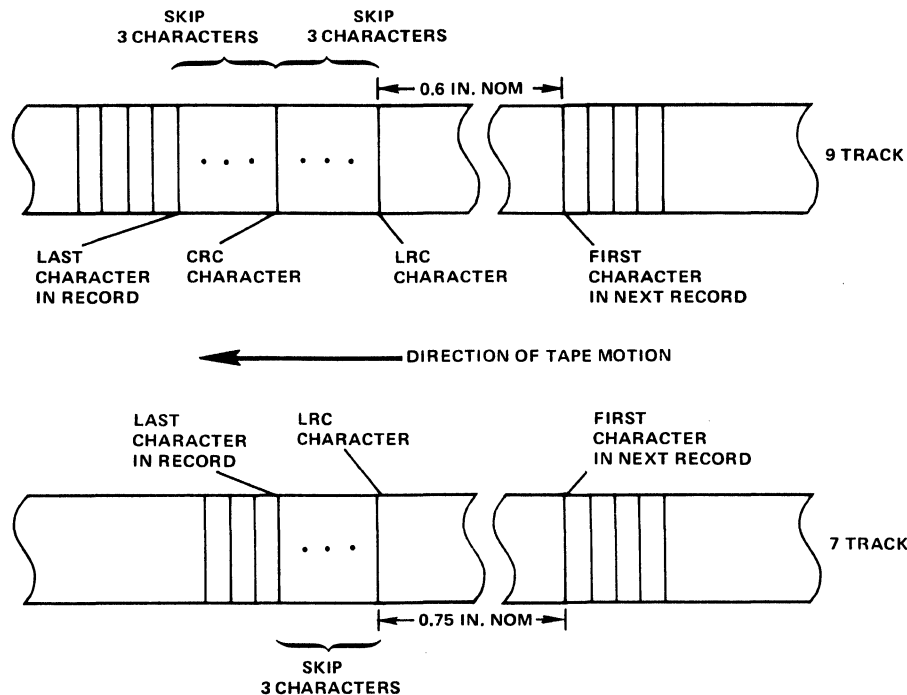
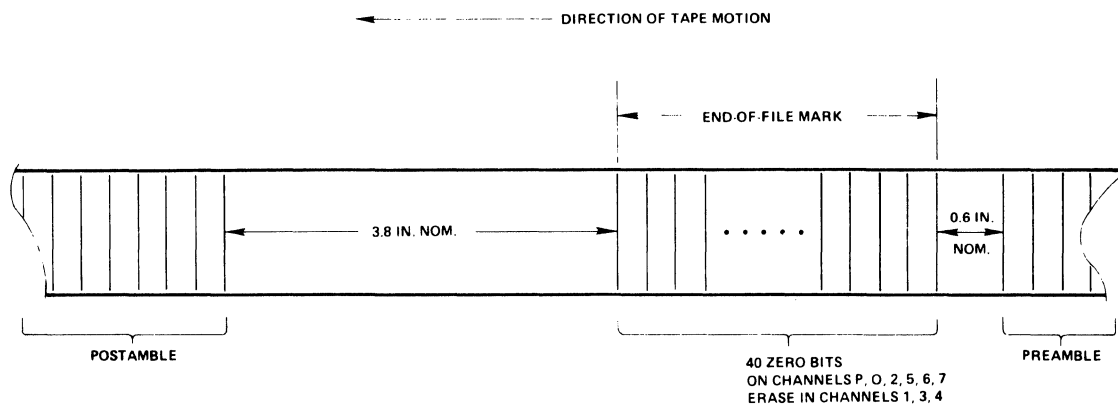

Figure 3-6. End-of-Record Mark Formats for 7- and 9-Track NRZI Tapes
Figure 3-9. End-of-File Mark for PE Tapes
The data is formatted and recorded on the tape in blocks referred to as records. The exact configuration of a record depends on whether the tape is in 7- or 9-track format. On 9-track tape, each record consists of the data, a cyclic redundancy check (CRC) character, and a longitudinal redundancy (LRC) character. The CRC character must occur four character times after the final data character, and the LRC character must occur four character times after the CRC. A minimum spacing of 0.5 inch is required between records. The end of a record is shown in figure 3-6.
On 7-track tape, each record consists of data, followed by an LRC character only, as shown in figure 3-6. Minimum spacing between data records is 0.6 inch.
Standard end-of-record and end-of-file mark formats that are used for NRZI recordings are shown in figures 3-6 and 3-8, respectively. The corresponding preamble and postamble for PE recording is described in paragraph 3-12 above. The end-of-file mark for PE recording is shown in figure 3-9.
- e. After the last character in the record is written, the formatter will gate the proper CRC, LRC, as they are shown in figures 3-6, 3-8, and 3-9.